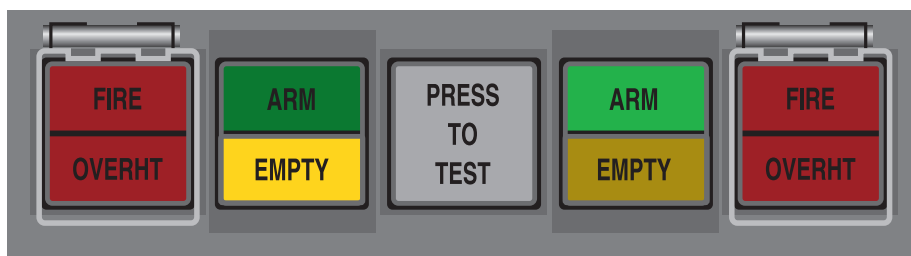

Figure 8-6. ARM/EMPTY Pushbutton
- Both the green ARM and yellow EMPTY lights (Figure 8-6) illuminate to indicate continuity of the electrical circuits.
The ARM/EMPTY pushbutton (see Figure 8-6) is divided into two parts.